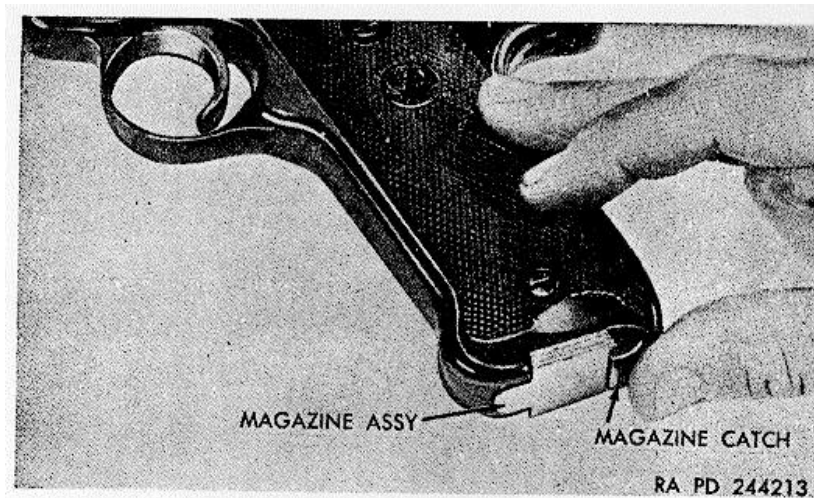

Figure 19. Removing or installing magazine assembly (Ruger).
- (1) The magazine catch is located at the bottom of the grip frame (fig. 19). It is serrated for nonslip action.
- (2) Pressing the magazine catch rearward releases the magazine assembly. The catch is spring loaded for return to its original position.